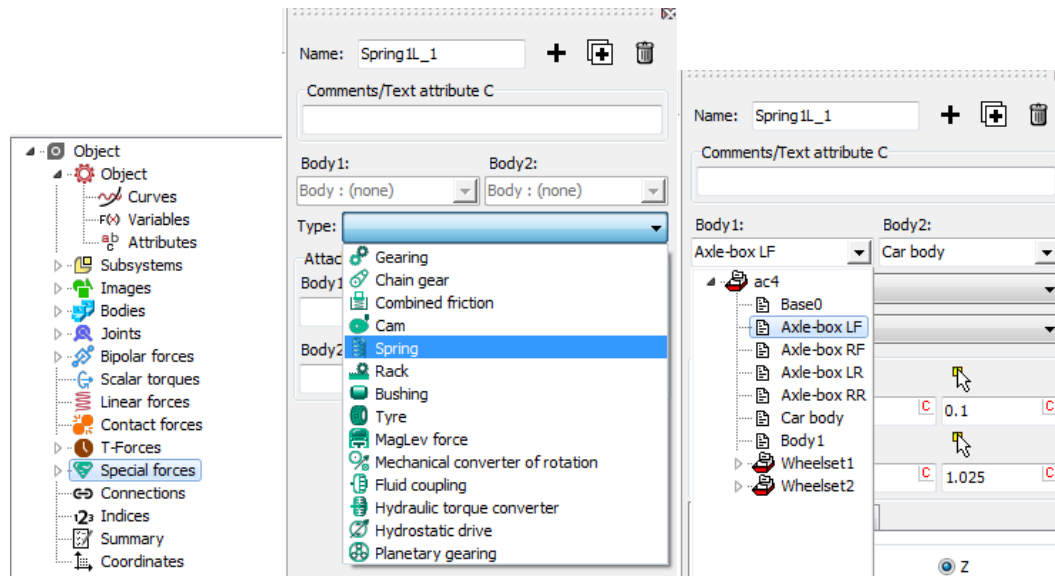

Figure 2.19. Creating spring
1. Select the **Special forces** tab (Figure 2.19, left) and add the first element corresponding to the front spring of the front right axle-box by clicking the  button. Rename it as “**Spring1L\_1**”. Set its type **Spring** (Figure 2.19, center).
2. Set bodies connected by the spring: **Axle-box LF** and **Car body** (Figure 2.19, right). Assign the **GO Spring**.